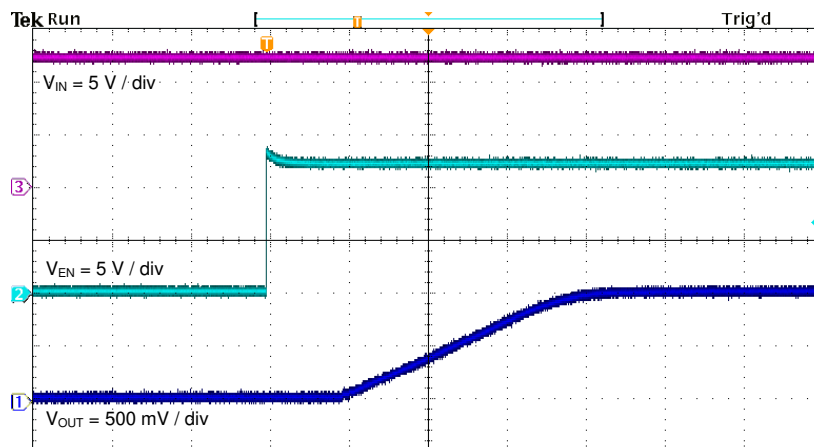

Figure 4-11. Start-Up Relative to EN
The TPS564201EVM-801 start-up waveform relative to enable (EN) is shown in Figure 4-11. Load = 1  $\Omega$  resistive.